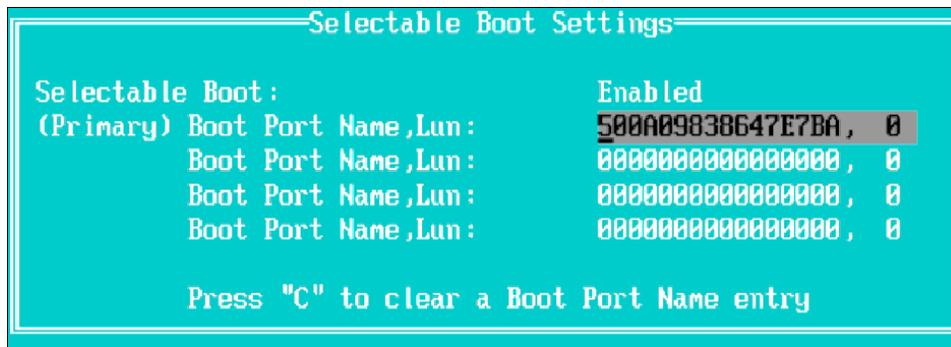

Figure 18-29 Selecting the (Primary) Boot Port Name
- Select the entry in the (Primary) Boot Port Name, LUN field, as shown in Figure 18-29. Press Enter.